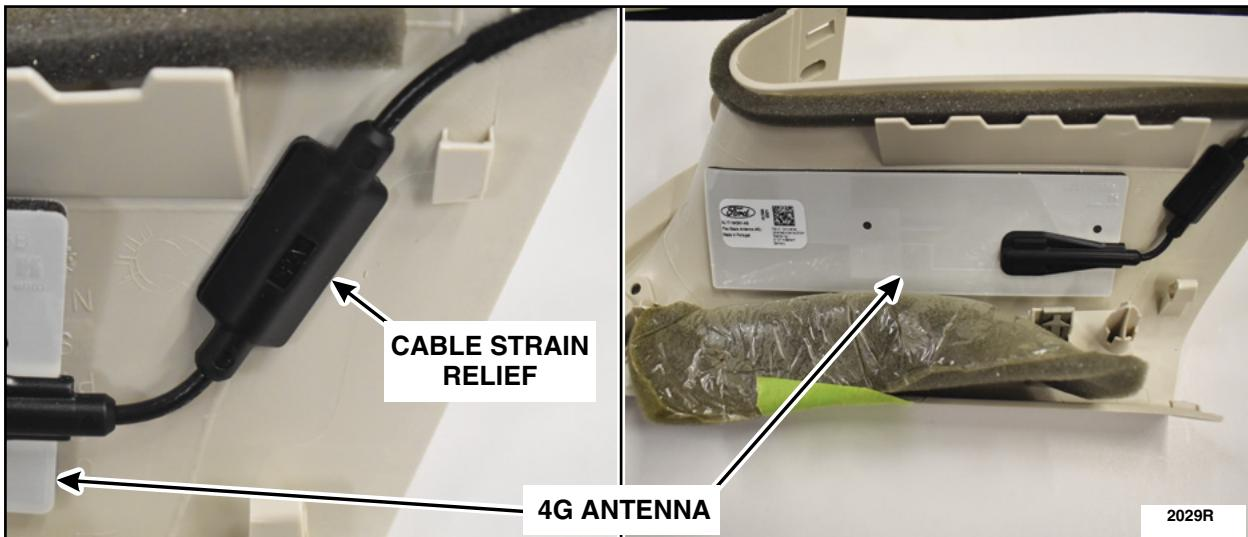

FIGURE 4
5. Install the new 4G antenna. See Figure 4.